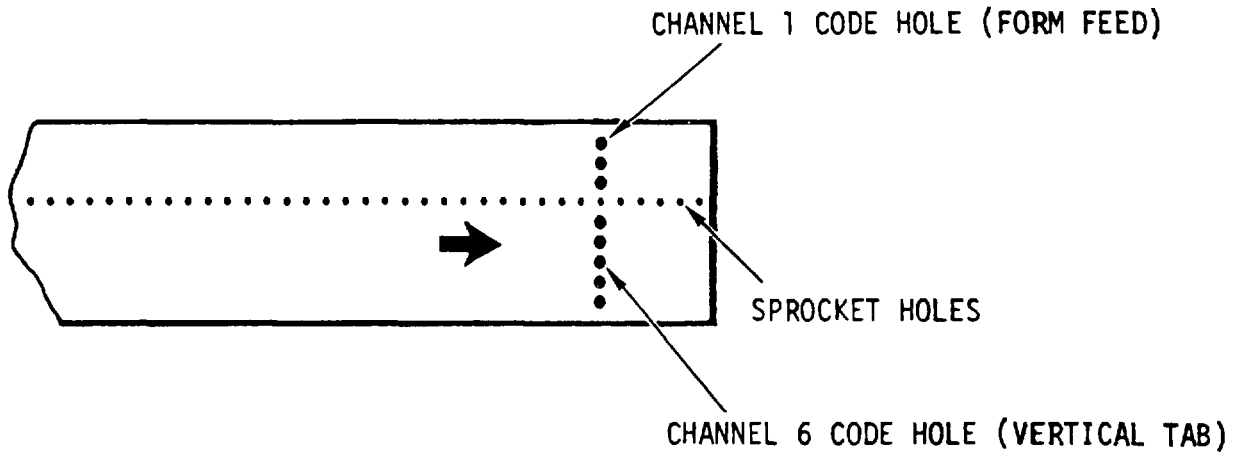

Figure 2-3. VFU Punched Tape
The VFU tape (fig. 2-3) is standard one-inch wide opaque paper or mylar tape. It comes with pre-punched sprocket holes that correspond to the lines on a form. Additional holes, known as channel code holes, may be punched in the tape by the punch and splicer device. Although eight channel code holes may be punched, only two are recognized by the line printer. They are channel one code hole for Form Feed (FF) and channel six code hole for Vertical Tab (VT).